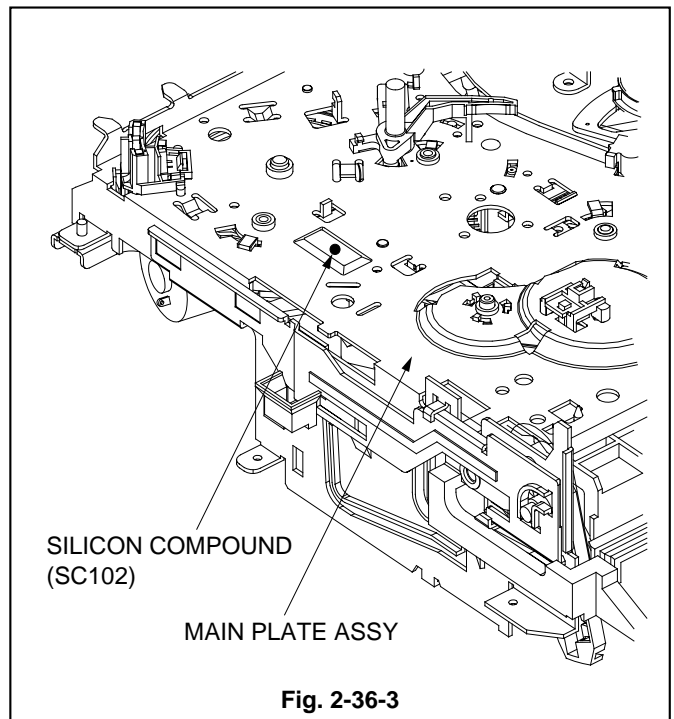

Fig. 2-36-3
1. Apply SILICON COMPOUND (SC102) [859D164O10] to the parts on the MAIN PLATE ASSY specified in the Fig. 2-36-3.